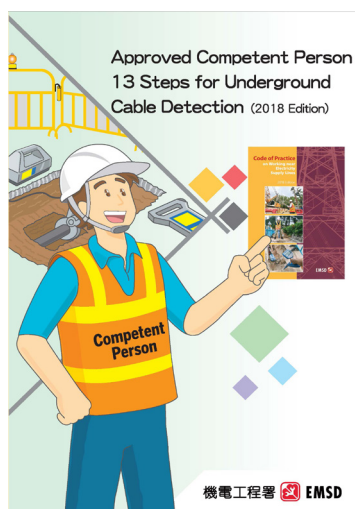
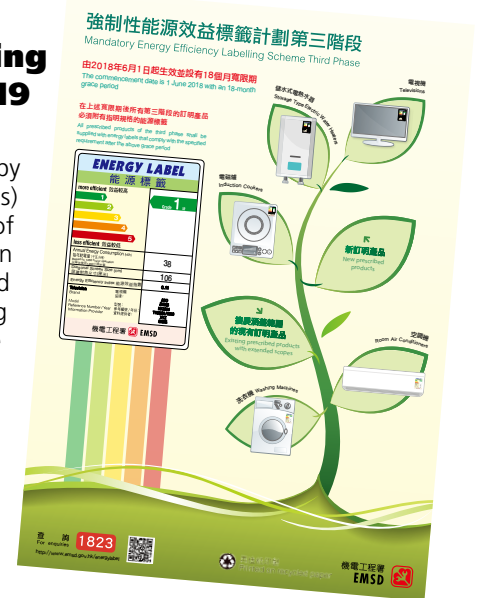

Figure 9
Figure 12
- (1) Publicity leaflets (Figures 9, 10 and 11):** Illustrate in the form of serial diagrams the reasonable steps and reasonable measures to be taken when working near electricity supply lines;
- (2) Templates of underground cable detection reports (fillable versions):** Standardise the format of underground cable detection reports to facilitate completion and storage by the trade; and
- (3) Waterproof publicity sticker (Figure 12):** Adopt QR code technology which makes it easier for the trade to download the latest information (such as templates of underground cable detection reports, publicity leaflets, CoP, etc.) on working near electricity supply lines.